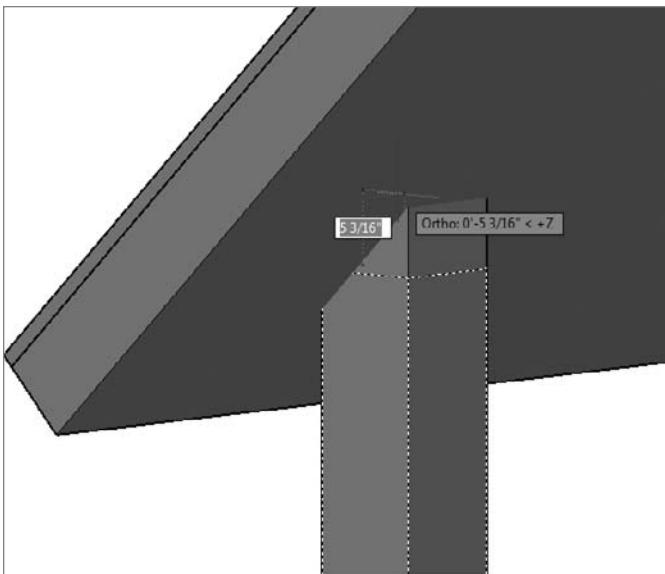

FIGURE 16.90 Adjusting the height of the roof support posts
10. Drag the ViewCube to change to an isometric view, and then adjust the height of the roof support posts so that they extend into the roof deck but not through the roof surface (see Figure 16.90).